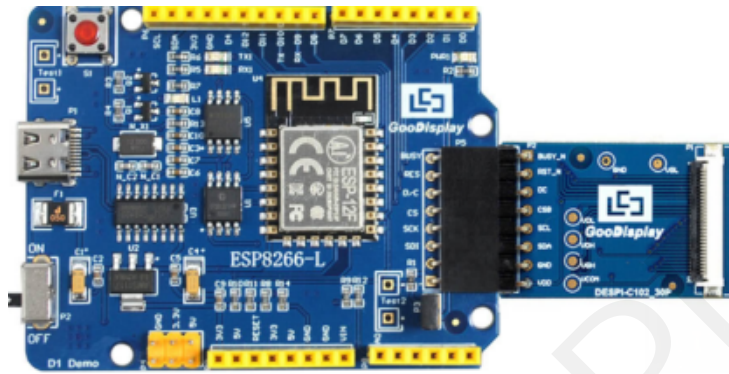
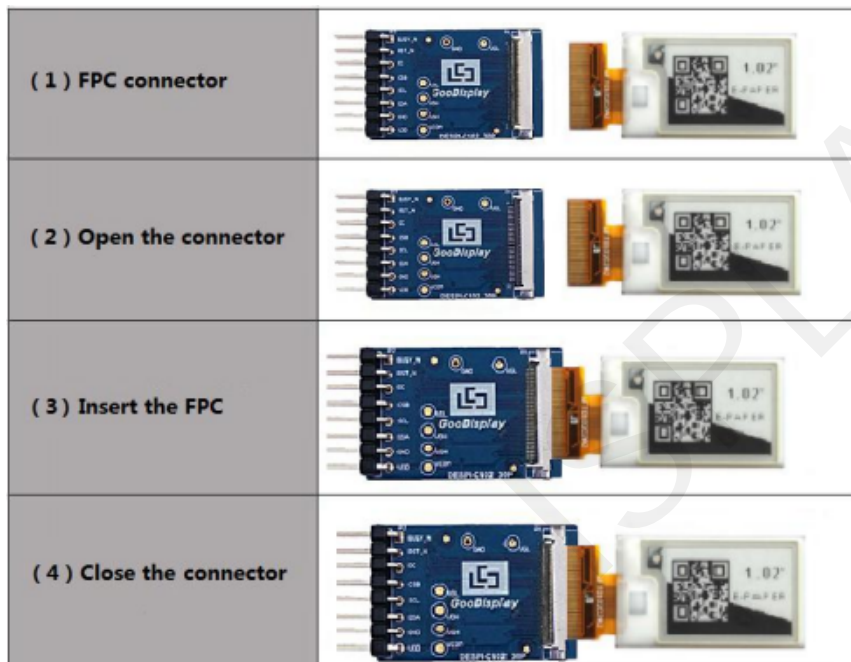

Figure 3 : Connection between ESP8266-L for EPD and DESPI-C102
Figure 4 : Connection between DESPI-C102 and e-paper
Connect DESPI-C102 to ESP8266-L for EPD as shown in Figure 3. Connect e-paper FPC to DESPI-C102 as shown in Figure 4. (Please note the direction of the e-paper.)
2) Insert the e-paper FPC gold finger upward into the P1 connector of the adapter board as shown in Figure 4.